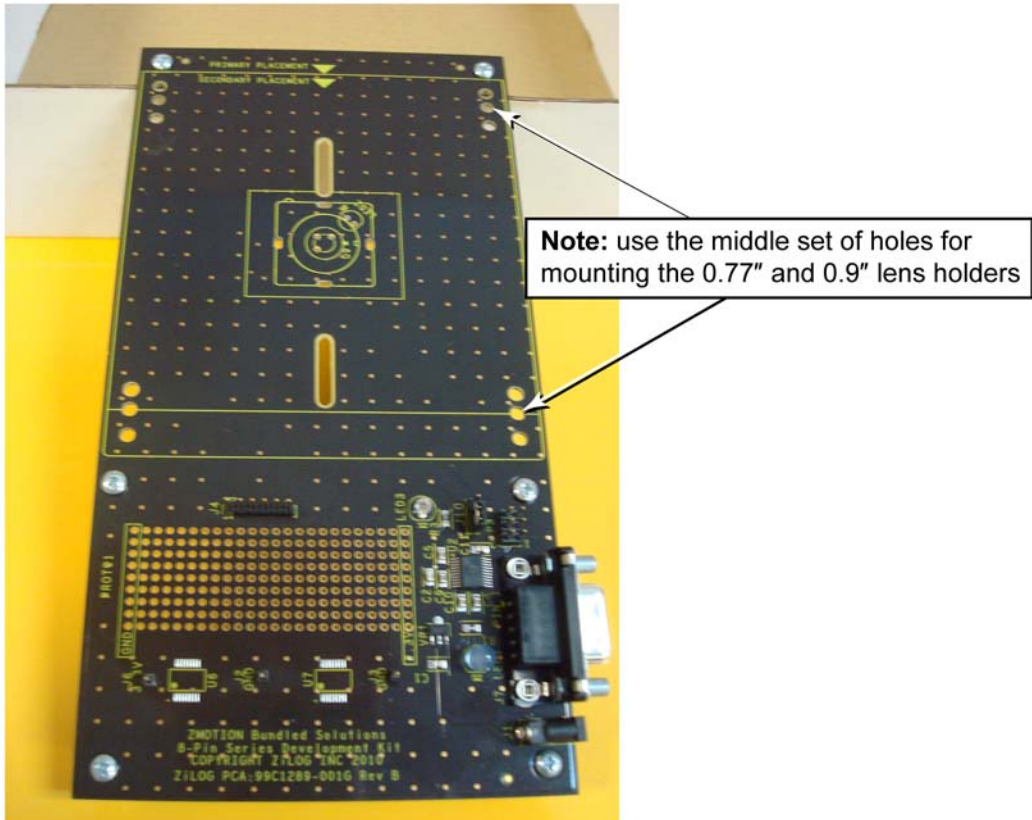

Figure 2. ZMOTION Detection and Control Development Board
► **Note:** The middle set of holes on the board is used to attach the 0.9" and .77" lens holders (see Figure 2).